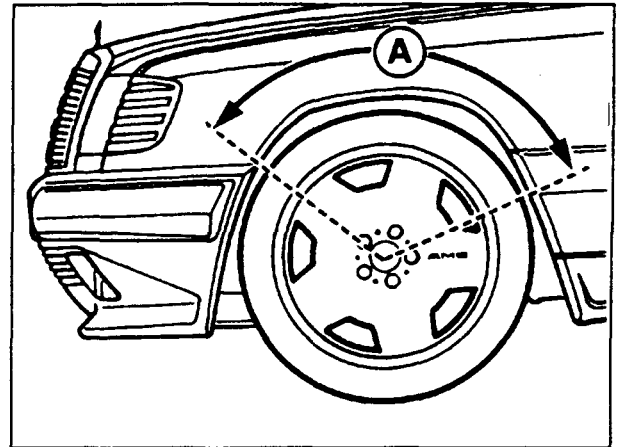

Figure 2
2. The inside edge of the front fenders must be rebent to an angle of 110° over the complete wheel cutout (A, Figure 2) to accommodate the wider wheels and tires.
5. The fender lip is reworked over the entire area (A, Figure 2) in several stages. A plastic hammer must be used to avoid damaging the paint.